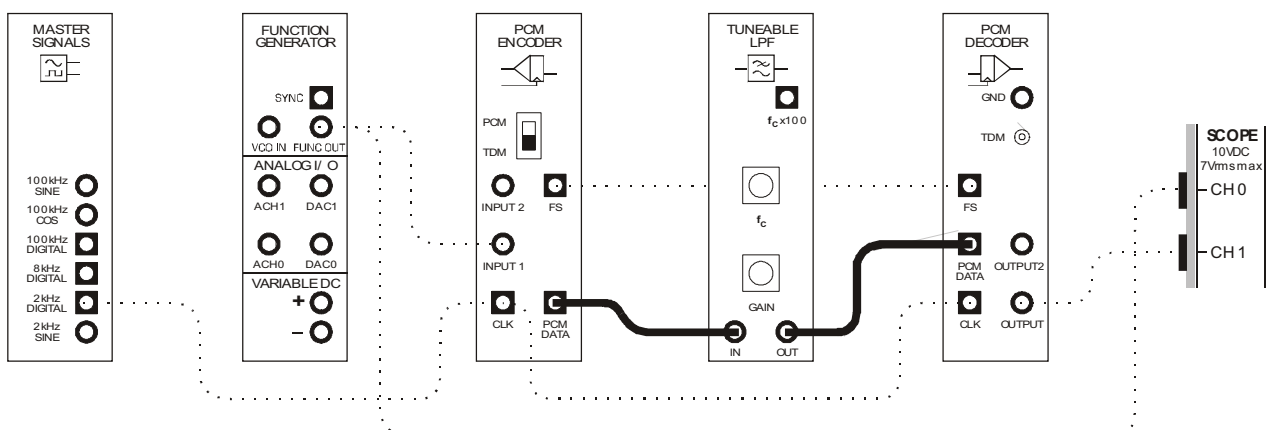
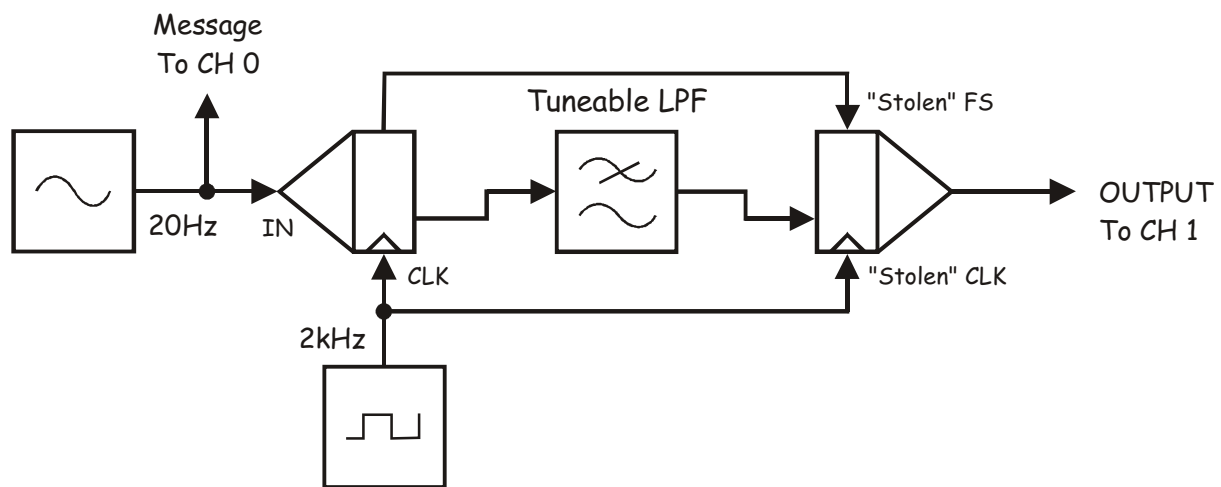

Figure 5
Figure 6
19. Modify the set-up as shown in Figure 5 below.
The set-up in Figure 5 can be represented by the block diagram in Figure 6 below. The Tuneable Low-pass Filter module models bandwidth limiting of the channel.